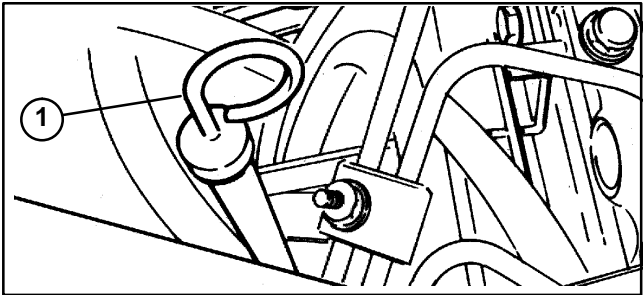

Figure 15
- B. Check oil level frequently until the level reaches the FULL mark on dipstick (Fig 15). When removing the dipstick, wipe it with a clean rag prior to inserting it to check the oil level.
- C. Push dipstick down into dipstick tube and make sure it is seated fully when finished (Fig 15).